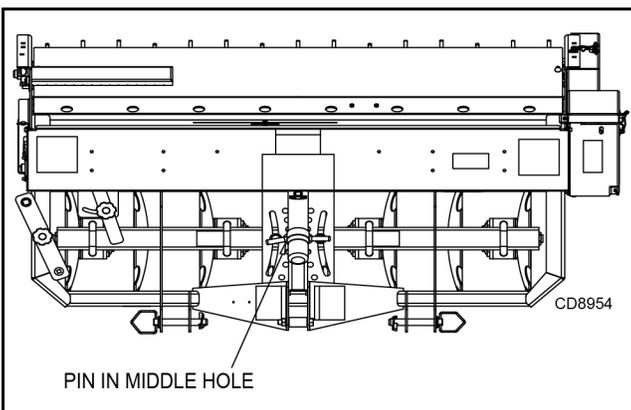

**Figure 8**
5. Adjust RH and LH front gang assemblies independently. Move tubes forward (see Figure 8) for spiked front rollers. Keep RH and LH adjustment angles the same for proper operation.
7. Lift Overseeder and pull forward to clear wooden blocks. Lower Overseeder to rest position on the ground/level surface and install hair pin clips (see Figure 8).